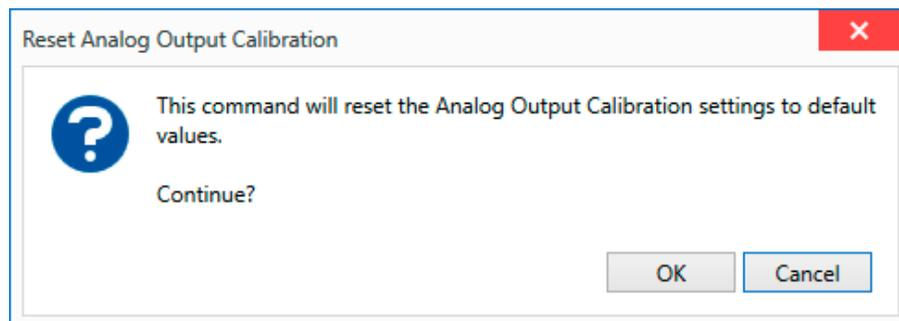

Figure 10.8—Reset Analog Output Calibration prompt
**Important** If you close the dialog before the final step of calibration, the calibration will be in an indeterminate state. At the prompt, use the Reset Analog Output Calibration command to reset the calibration to default values, and then restart the calibration procedure (Figure 10.8).